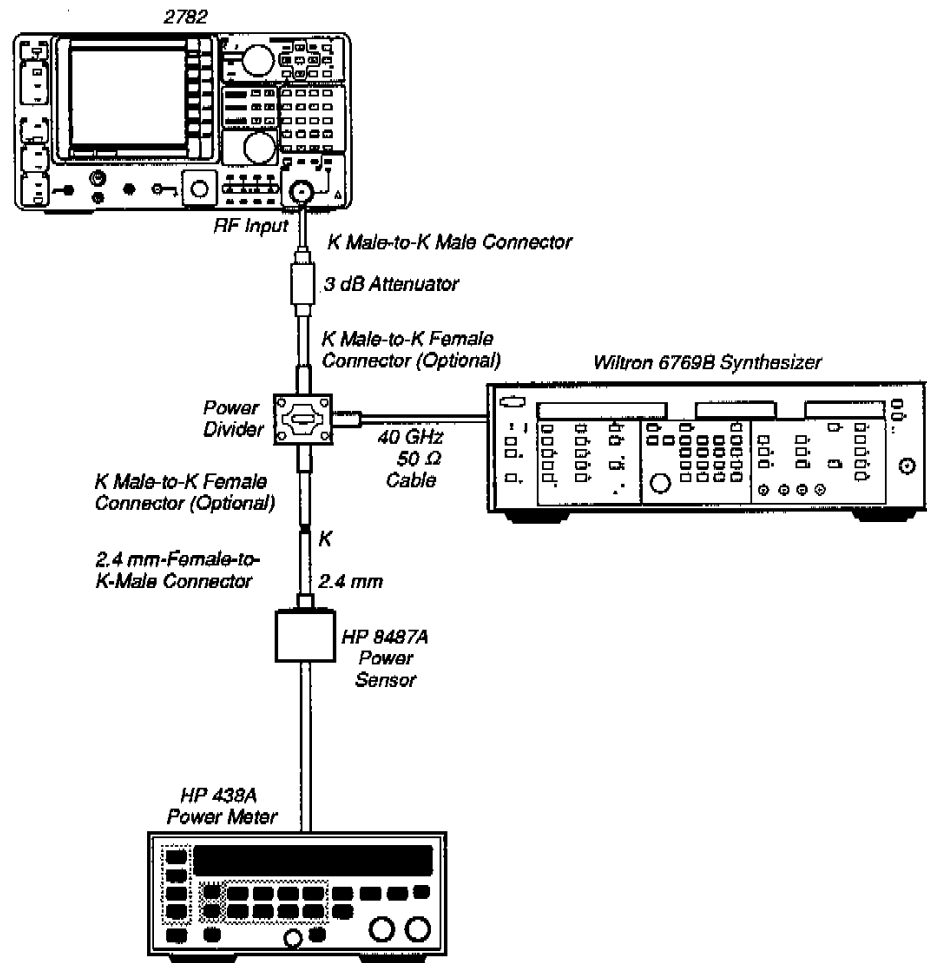

Figure 2-2. Test Fixture Setup for High Frequency Flatness Tests.
4. Connect the test-fixture components as shown in Figure 2-2 and connect them to the 2782.
For this testing method to work properly, the UTIL.EXE program must be run to characterize the test fixture setups shown in Figure 2-2 and 2-3.
From this point on, CATS.EXE handles the flatness verification automatically. All you have to do is change equipment periodically (as shown in Figure 2-2 and 2-3). CATS.EXE prompts you for these changes.